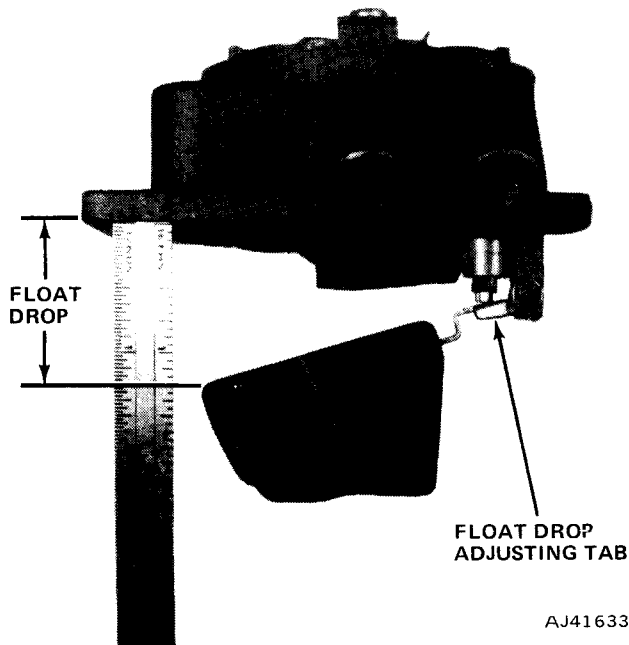

Fig. 4-27 Float Drop Adjustment
- (1) Remove carburetor air horn and gasket from carburetor.
- (2) Hold air horn upright and let float hang free. Measure the maximum clearance from top of float to bottom of air horn with float drop gauge. (Refer to Carburetor Service Specifications for proper clearance.) Hold air horn at eye level when gauging dimension (fig. 4-27).
- (3) Bend tab at end of float arm to obtain specified setting.
- (4) Install carburetor air horn and new gasket on carburetor.